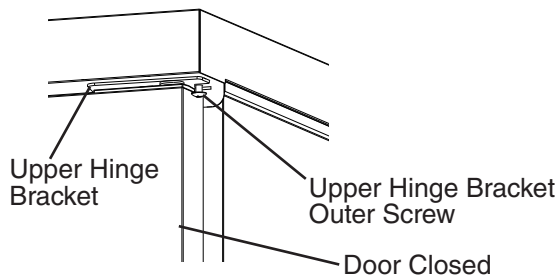
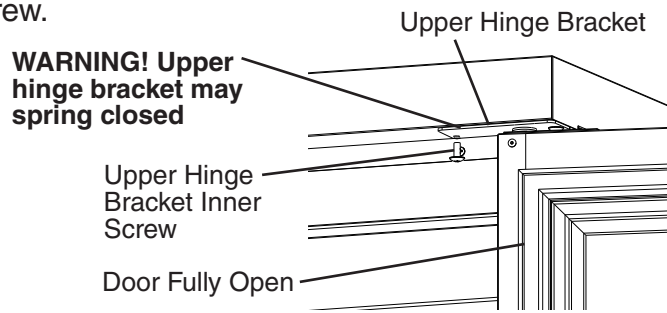

Fig. 5
Fig. 6
- 2) With the door closed, loosen, but do not remove, the upper hinge bracket outer screw. See Fig. 5. Next, open the door to the fully open position and remove the upper hinge bracket inner screw. See Fig. 6.